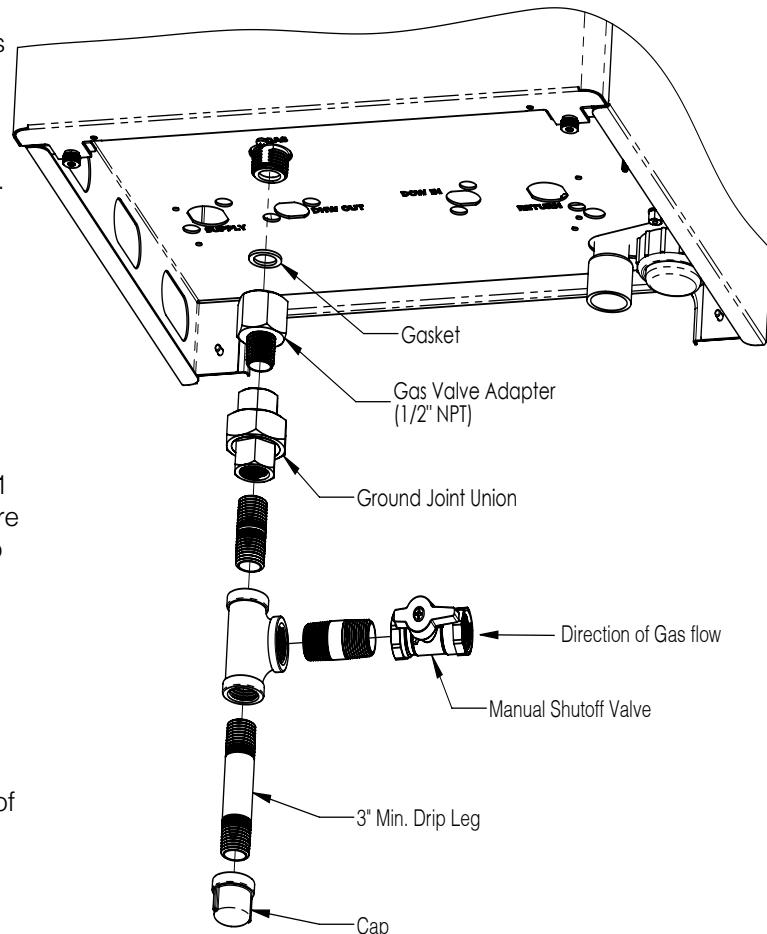

Figure 12-1: Gas Piping
2. Use methods and materials in accordance with local plumbing codes. In absence of such requirements, follow NFPA 54/ANSI Z223.1 *National Fuel Gas Code* and/or CAN/CSA B149.1 *Natural Gas and Propane Installation code*. Figure 12-1 shows typical gas piping and connection to boiler.